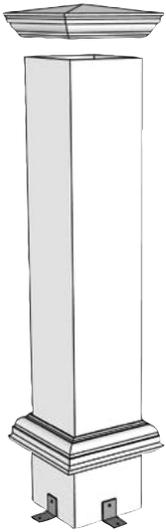

Figure 1
1. Installing Newel Posts (Figure 1)